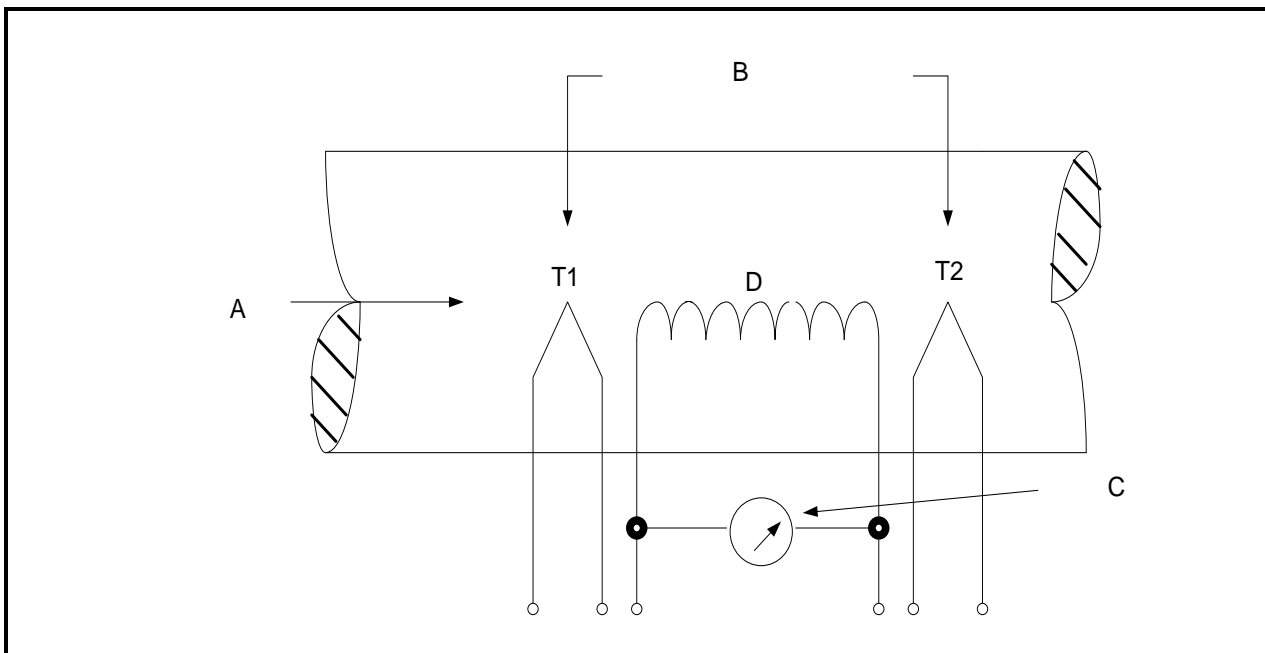

FIGURE 1
- 2.1 Label FIGURE 1 by writing the answer next to the letter (A–D) in the ANSWER BOOK. (4 × 1) (4)
- 2.2 Which type of flowmeter is shown in FIGURE 1?  (1)
- 2.3 Explain the disadvantage of the flowmeter in FIGURE 1. (2)
- 2.5 Briefly explain how the flowmeter in FIGURE 1 measures the mass flow rate. (2)